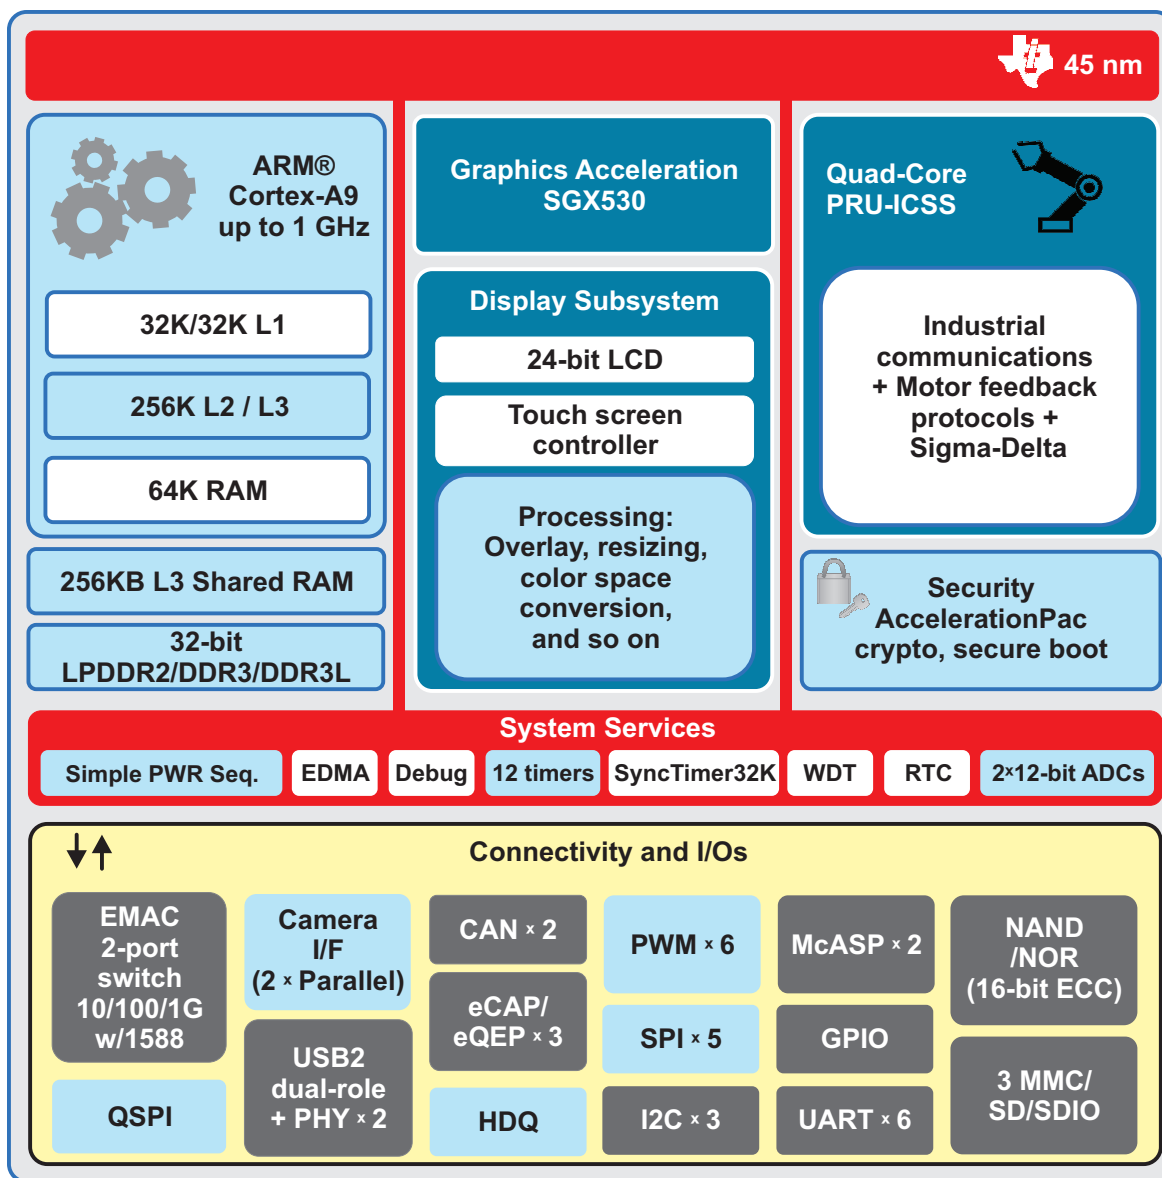

図 2. AM437x Functional Block Diagram
The Sitara AM437x processor family is based on the powerful ARM Cortex-A9 Core. Figure 2 shows the block diagram of the processor and integrated peripherals. This processor integrates a quad-core programmable real-time unit (PRU), which has been designed to implement deterministic, real-time processing of industrial communication protocols such as EtherCAT, PROFIBUS, and position encoder interfaces like EnDat2.2, BiSS, and $\Delta\Sigma$ demodulator interfaces. This makes AM437x processors ideal for industrial communications, industrial control, and industrial drives applications. The processor has a rich peripheral set for industrial interfaces, motor control, graphics, and security. The device can boot from various sources including QSPI and NAND. The JTAG interfaces all cores including PRUs and the PRU can be debugged using the Code Composer Studio™ (CCS) software from Texas Instruments (TI). Parallel debug of ARM and PRUs is supported. The reference document for AM437x can be found at <http://www.ti.com/product/AM4379>.